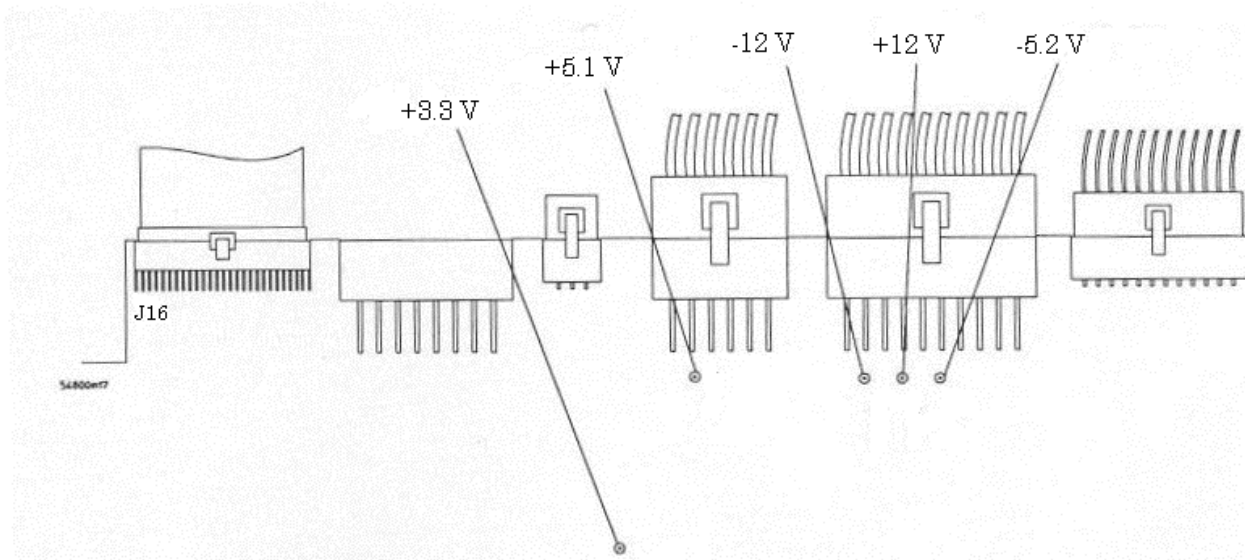

Figure 1. Power supply test points
- (1) Press TI  button to power down TI.
- (2) Disconnect power cord and remove TI cover.
- (3) Reconnect power cord and press TI  button to power up TI.
- (4) Connect multimeter common lead to TI ground.
- (5) Connect multimeter positive lead to TI +5.1 V test point (fig.1).